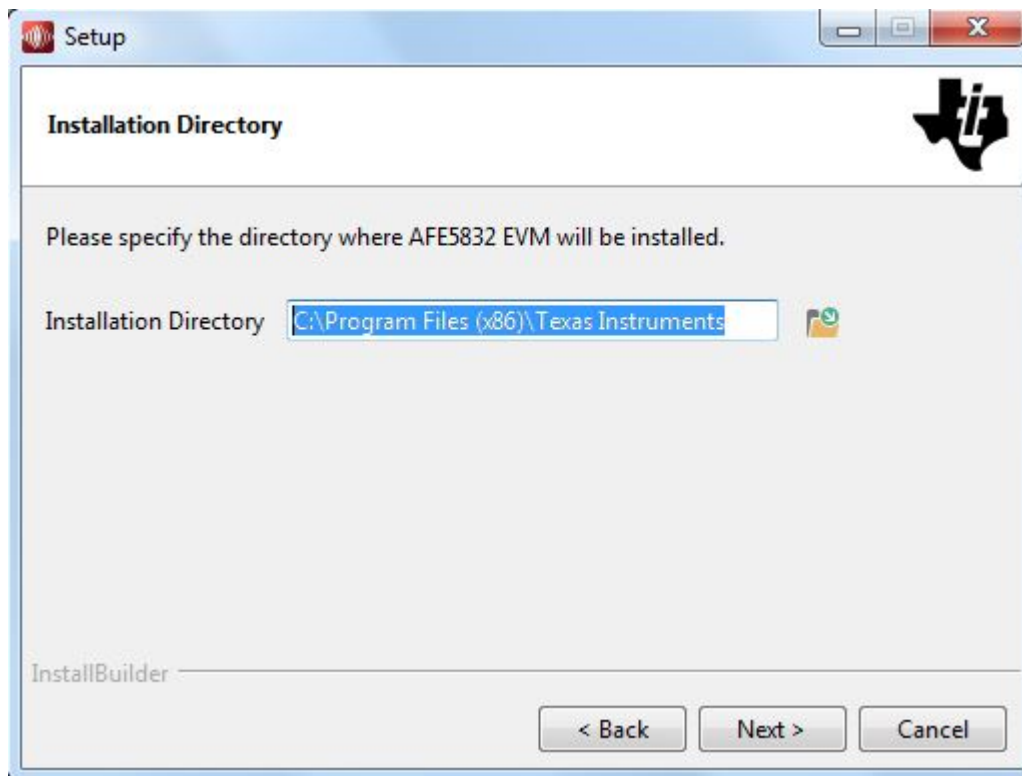

Figure 35. AFE5832 GUI Install (Install Directory)
5. Allow the software to be installed in the default location by pressing the *Next* button, as in Figure 35.